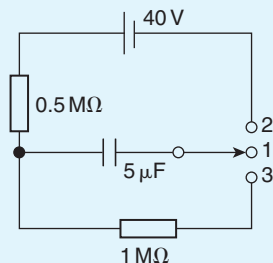
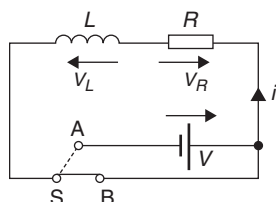

Figure 18.9
Figure 18.13
12. (a) In the circuit shown in Fig. 18.9, with the switch in position 1, the capacitor is uncharged. If the switch is moved to position 2 at time $t=0\ \text{s}$, calculate the (i) initial current through the $0.5\ \text{M}\Omega$ resistor, (ii) the voltage across the capacitor when $t=1.5\ \text{s}$ and (iii) the time taken for the voltage across the capacitor to reach $12\ \text{V}$.
When a series connected L – R circuit is connected to a d.c. supply as shown with S in position A of Fig. 18.13, a current $I = V/R$ flows after a short time, creating a magnetic field ($\Phi \propto I$) associated with the inductor. When S is moved to position B, the current value decreases, causing a decrease in the strength of the magnetic field. Flux linkages occur, generating a voltage v_L , equal to $L(di/dt)$. By Lenz's law, this voltage keeps current i flowing in the circuit, its value being limited by R . Since $V = v_L + v_R$, $0 = v_L + v_R$ and $v_L = -v_R$, i.e. v_L and v_R are equal in magnitude but opposite in direction. The current decays exponentially to zero and since v_R is proportional to the current flowing, v_R decays exponentially to zero. Since $v_L = v_R$, v_L also decays exponentially to zero. The curves representing these transients are similar to those shown in Fig. 18.9.